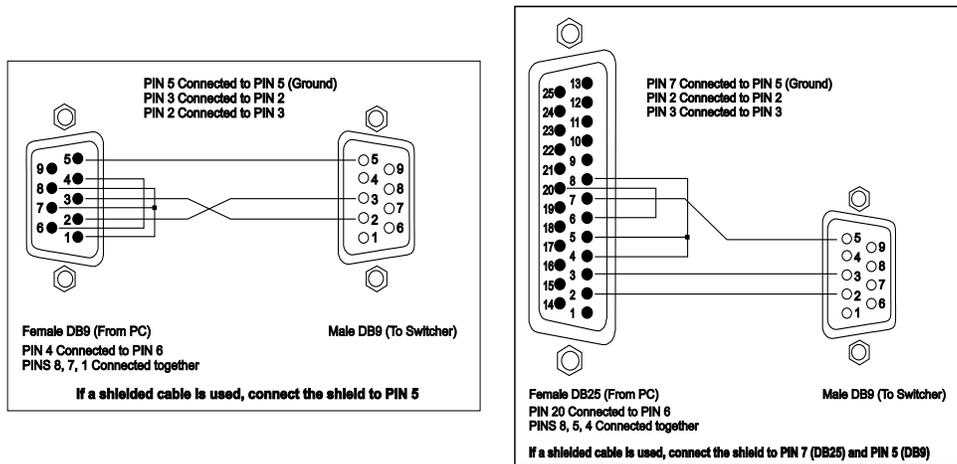
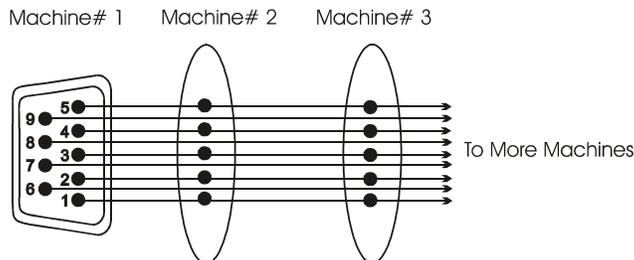

Figure 7: RS-232 Control Connector Wiring
Figure 8: Connecting Multi-Machines
- 2) Connect a PC equipped with a serial port to the socket marked "TO PC" on the rear panel of the VS-2000, using a null modem connection (the null modem adapter provided with the machine). Use a straight DB9 to DB9 connector if you are using the null modem adapter, or connect as in Figure 7.
To connect directly to a PC without using the KRAMER Null-Modem Adapter, make connections as in Figure 7. To use the KRAMER Adapter instead (recommended), plug one end into the PC's serial port, then connect from the other end to the switcher using a 9-pin flat-cable. When multi-machines are to be connected together, make the connections as in Figure 8, or extend pins "5" and "9" only.